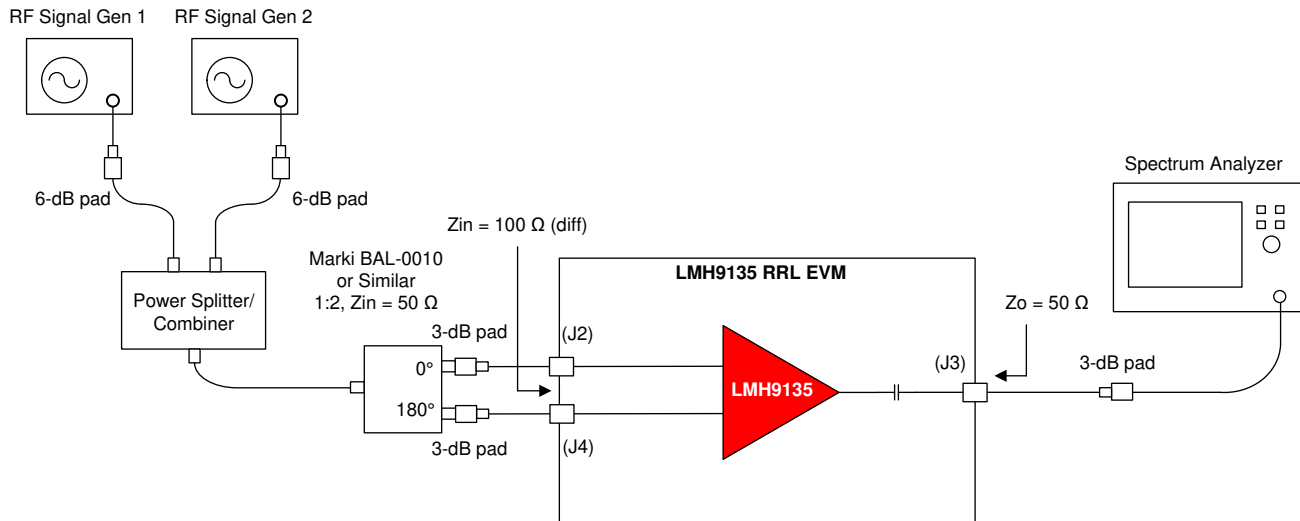

**Figure 3-3. Noise Figure Test Setup**
1. The traditional Y-factor method can be used for the NF measurement using a noise diode and a spectrum analyzer (or a noise figure analyzer), as Figure 3-3 shows.